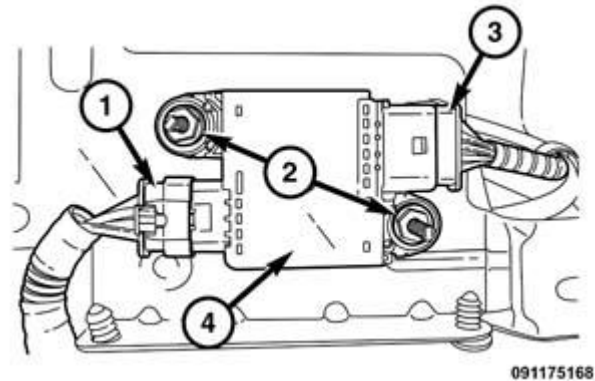

Figure 6 – PM Sensor Wiring
NOTE: DO NOT try to disconnect wire harness connector (3) from Particulate Matter (PM) sensor module Figure 6).
11. Disconnect the PM sensor wire harness connector (1) (Figure 6).